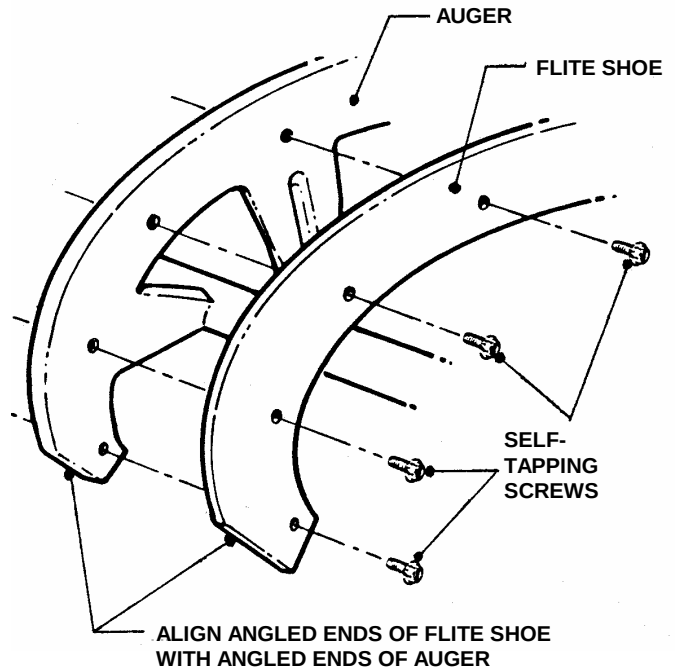

FIGURE 5.7
3. Install new flite shoes to auger using self-tapping screws removed previously. Tighten screws securely. DO NOT overtighten. See Figure 5.7.